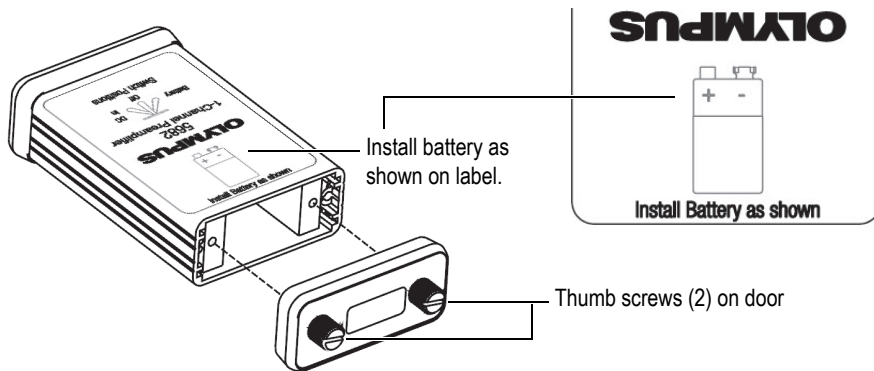

Figure 3-2 The battery door
1. Loosen the thumb screws on the rear panel and remove the battery door (see Figure 3-2 on page 31).